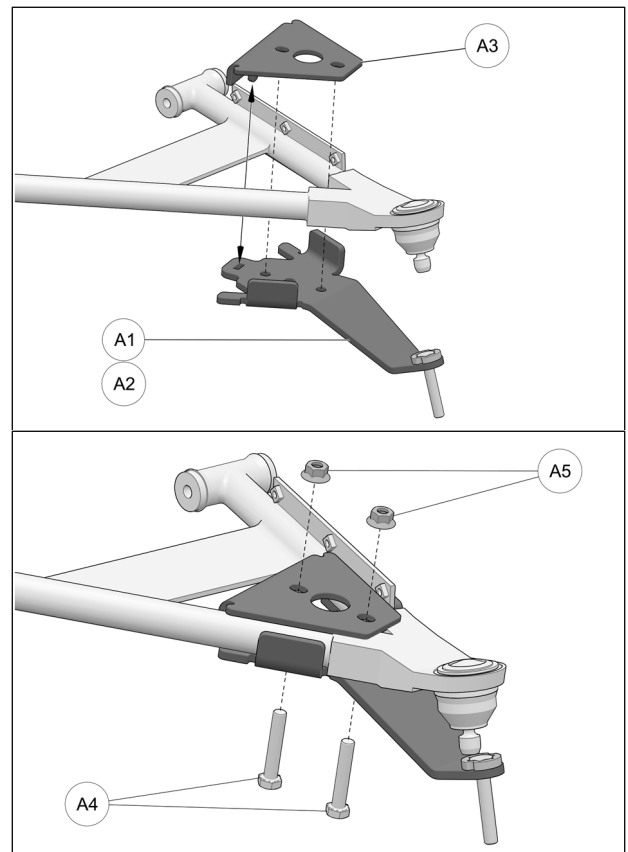

Fig. 16
5. Position bottom part of anchor bracket (A1-A2) assembly under front lower suspension arm, as shown in the figure below. Position bracket cover (A3) over suspension arm and align holes in cover and bottom part. Insert the M10x55mm bolts (A4) from the bottom and secure the two parts together with the nuts (A5) provided. Tighten assembly to 50 N•m [37 lb•ft] of torque. Refer to Fig. 16